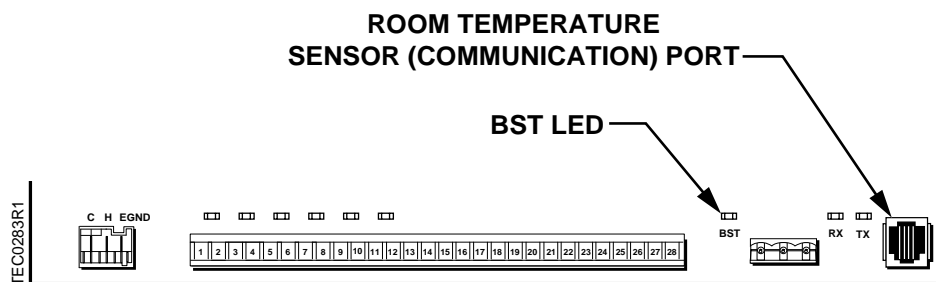

Figure 1. TEC Board Showing Location of BST LED and RTS Port.
3. Verify that the Controller is powered up. Check that the BST LED on the controller is flashing (*Figure 1*). If the BST LED does not flash on/off once per second, then refer to the *APOGEE Automation Service Procedures* on InfoLink for troubleshooting information.
1. Plug the MMI into the Room Temperature Sensor port (*Figure 1*).